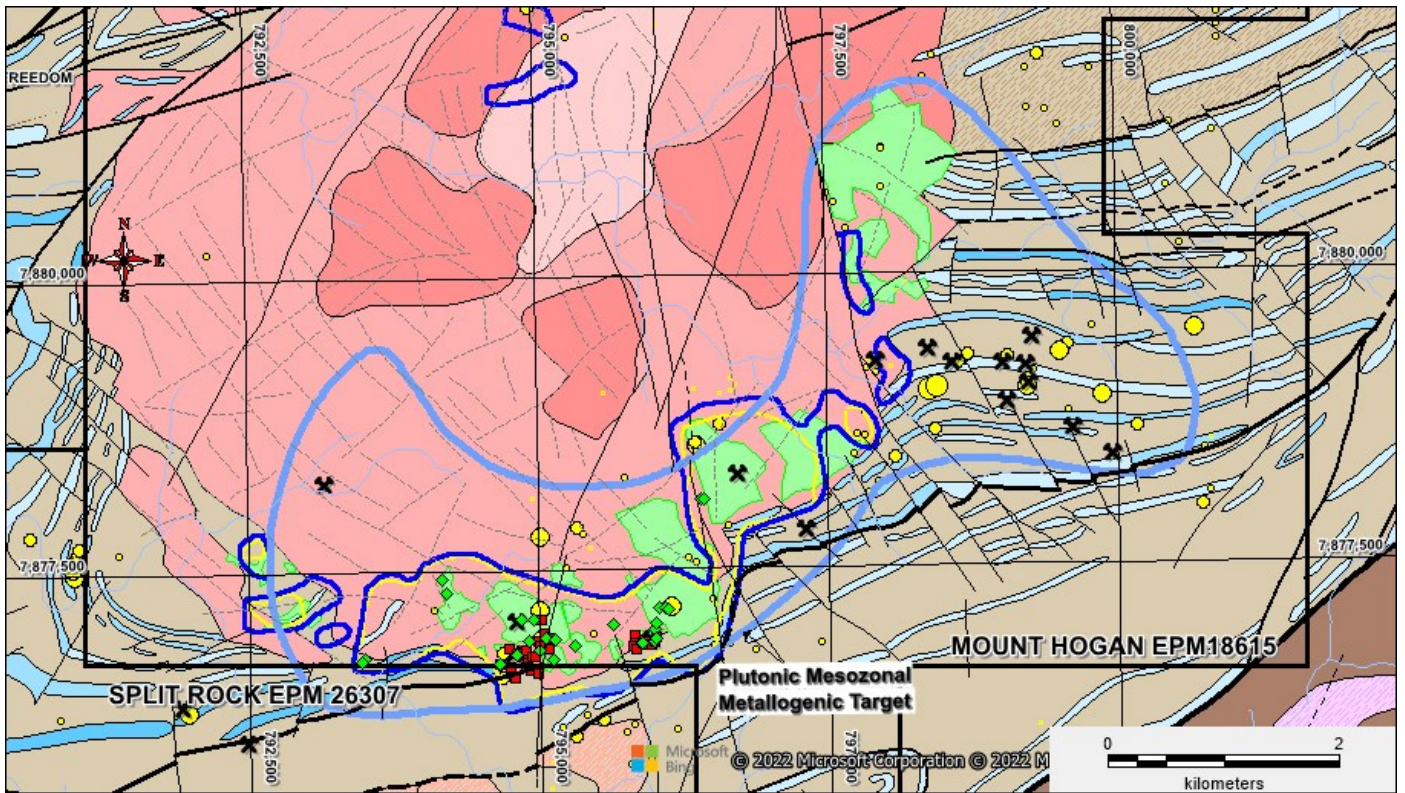

Figure 2 Gilberton Gold Project 2021(red) and 2022 (green) Drilling – Interpreted Geology, alteration in green
A total of 4,275m was drilled, comprising 38 angled drillholes within the Mt Hogan and Split Rock Tenements (**Figure 2**). Assays have been received from all 38 Reverse Circulation (RC) holes. This RC drill campaign at the Mt Hogan historical opencut/underground mine, Charlie’s South and Charlie’s North prospects was designed to test the extent of known gold mineralisation at depth and along strike extensions (**Figures 2 to 5**).
Gold mineralisation is concentrated around the south-eastern margin of the Mt Hogan Granite and consists of a set of stacked, shallow, southwest dipping (15-20°) quartz - sulphide veins. The veins are composed of medium grained, euhedral buck quartz crystals that have been brecciated and recrystallised by later movement of the vein's structures. Cores of the veins are often filled with sulphide. The lenticular veins are enveloped by an alteration halo of sericite (proximal), chlorite and epidote (distal) and appear to have developed in tensional openings produced by north-easterly thrusting. Gold mineralisation is also associated with dolerite dykes (Figure 2) to the east of the Mt Hogan Granite thus increasing the size of the gold target at Mt Hogan